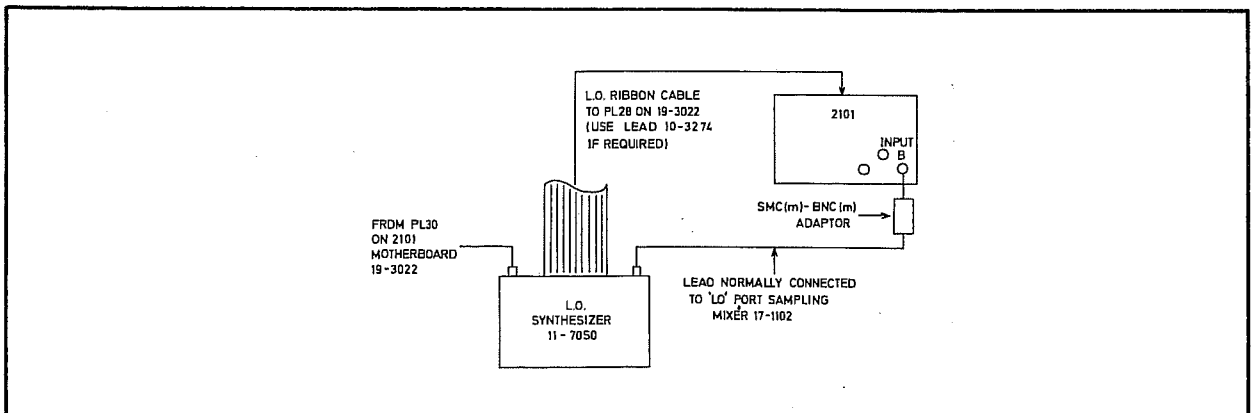

Fig. 7.10 Connections for Channel C Input System Adjustment (Pt. 2)
- (7) Connect the equipment as shown in Fig. 7.10. On the 2101 select FREQ B. Set the LO to each of the frequencies shown in Table 7.3. At each step check that the frequency error is less than ± 2 Hz.
- (8) Disconnect the test equipment.